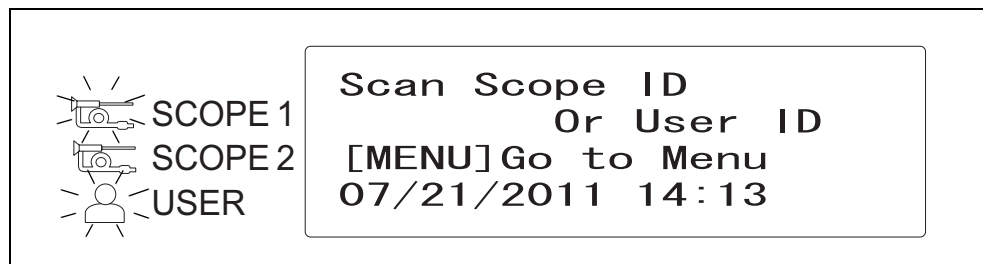

Figure 4.4
- 2 A short beep sounds when the self-check is completed properly. The “Scope ID indicator (SCOPE1)” and “User ID indicator (USER)” indicators blinks as shown in Figure 4.4, and the standby screen appears on the LCD monitor.